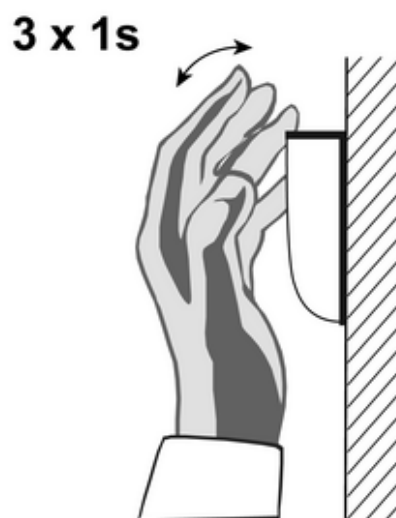

Figure 2
- Cover the motion detector with your hand for approx. 1 second at least three times within 9 seconds (figure 2).